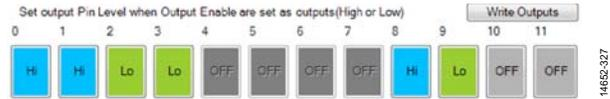

Figure 199. Setting Logic Levels for the 3.3 V GPIO Pins
- Click on the numbered boxes in the **Set output Pin Level when Output Enable are set as outputs (High or Low)** section to select the logic level for the 3.3 V GPIO output only pins. Click once on the box to set that 3.3 V GPIO pin to logic high and click twice on the box to set the pin to logic low. Click **Write Outputs** to selected the levels applied to the 3.3 V GPIO pins (see Figure 199).